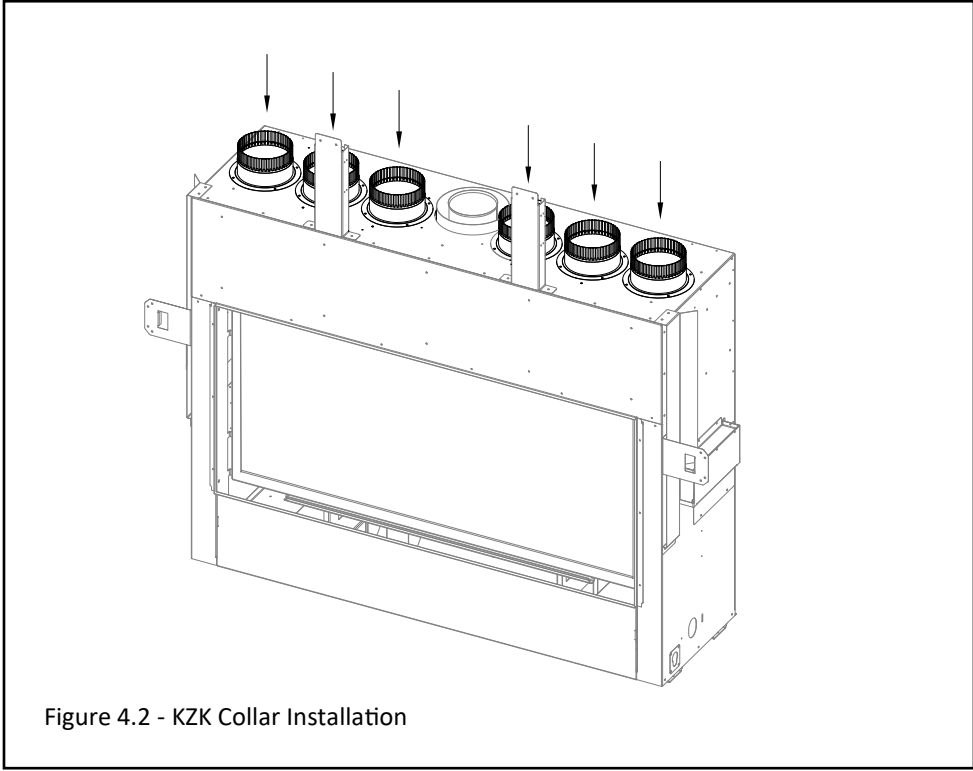
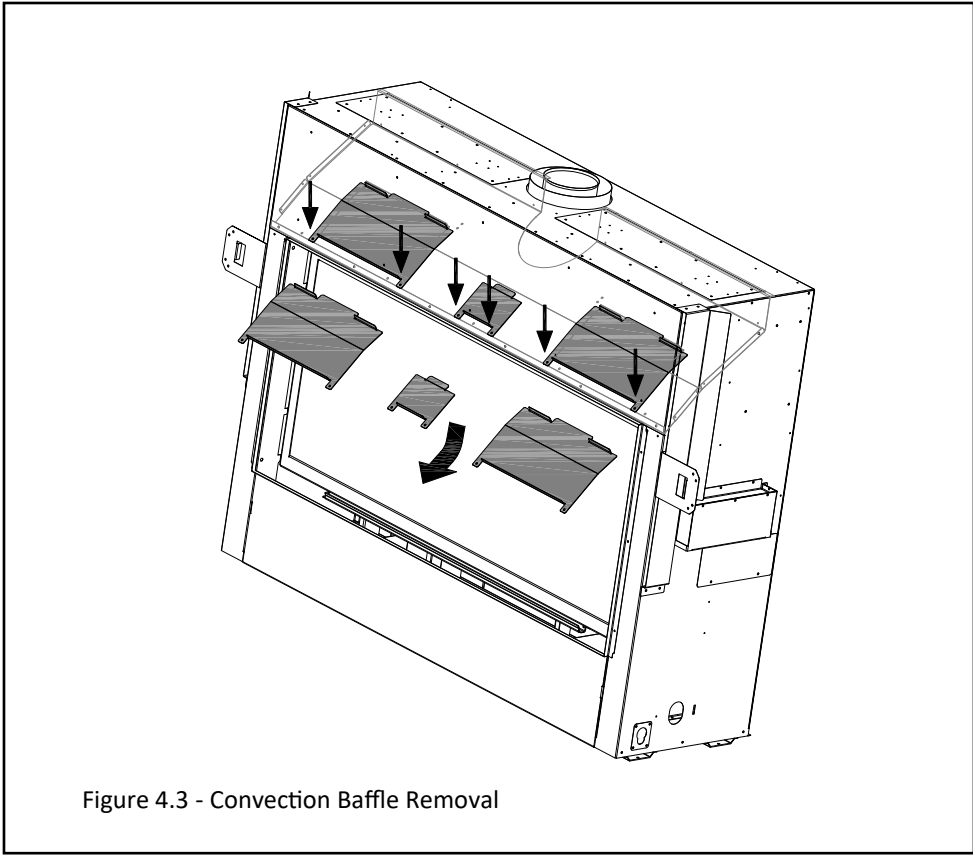

Figure 4.2 - KZK Collar Installation
Figure 4.3 - Convection Baffle Removal
- The appliance cover plates and convection plates must be removed for Komfort Zone Kit installations, as shown in FIGURE 4.1 & Figure 4.3. KZK collars must be installed—See Figure 4.2.
2. Install the KZK collars that were provided with KZK-062 as shown in Figure 4.2. Reuse the sheet metal screws from the previous step.
3. Locate the (3) convection baffles as shown in Figure 4.3. There are (2) screws that secure each convection baffle. Remove the screws and convection baffles from the fireplace. Discard the screws and convection baffles.